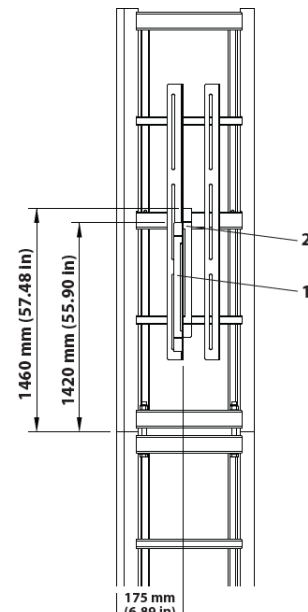

Figure 6.12
Once the masts are assembled, install the end-of-travel pad (1) and the upward overtravel pad (2), as shown in figure 6.12. The upward end-of-travel pad (1) must be positioned and adjusted in such a way for the cabin to stop at the desired height; position the overtravel pad (2) about 2 in. higher. Perform various maneuvers to verify the correct operation of the stop.